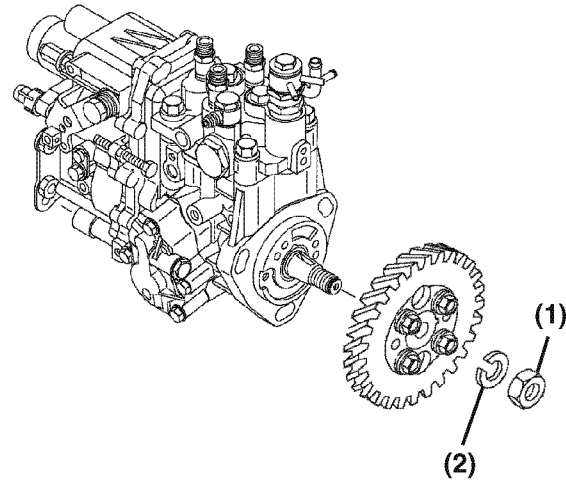

Figure 7-26
5. Reinstall the fuel injection pump drive gear lock washer (Figure 7-26, (2)) and nut (Figure 7-26, (1)). Do not lubricate the threads of the nut or shaft. Hold the crankshaft pulley bolt with a socket wrench and tighten the drive gear nut to the specified torque. See *Special Torque Chart* on page 7-7.